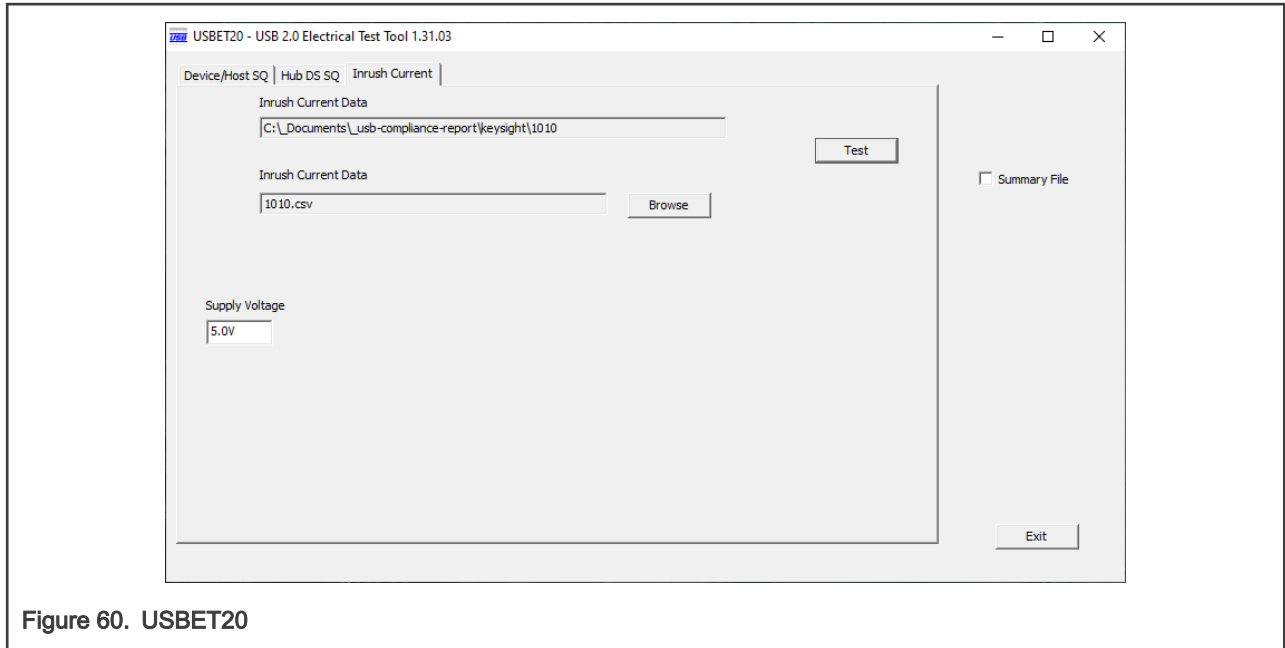

Figure 60. USBET20
6. Copy the \*.csv file to PC. Open the file in the USBET20 software as shown in Figure 60. The file can be downloaded from USB-IF Document page. Click **Test**, and the result pops up.